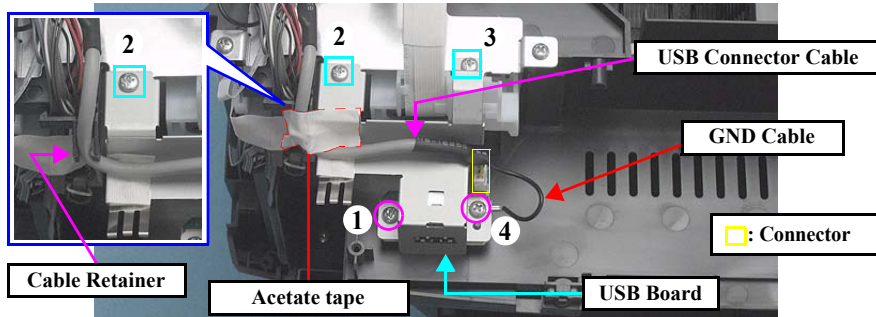

Figure 4-44. Removing the USB Board
- Screw the USB Board in the order given in Fig.4-44.
- When screwing the USB Board, secure the GND Cable of the USB Cable together with the screw as shown in Fig.4-44.